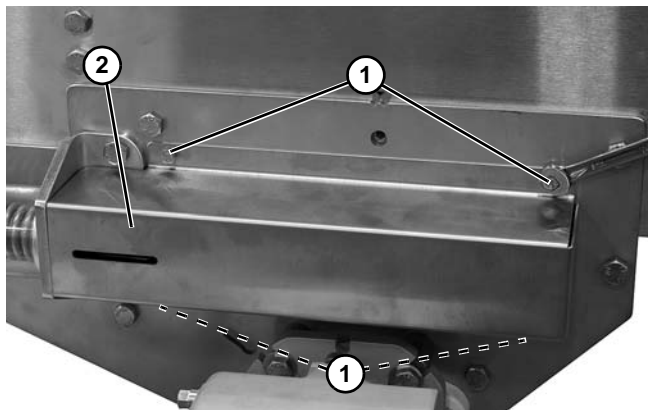

Figure 52
6. Remove four screws (**Figure 52, item 1**) and cover (**Figure 52, item 2**).